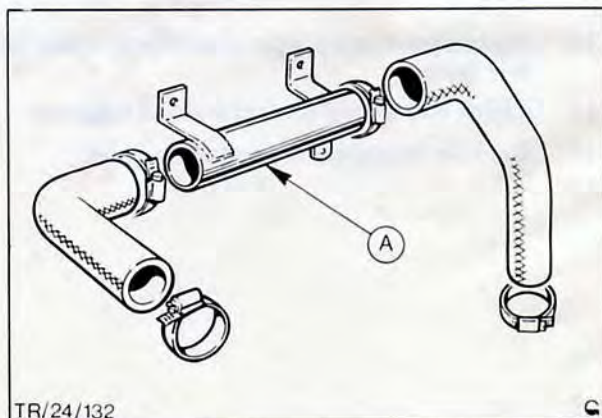

Fig. 22. Hose assembly in component form
6. Loosen clips securing two flexible hose sections to centre metal section and separate three parts, Fig. 22.